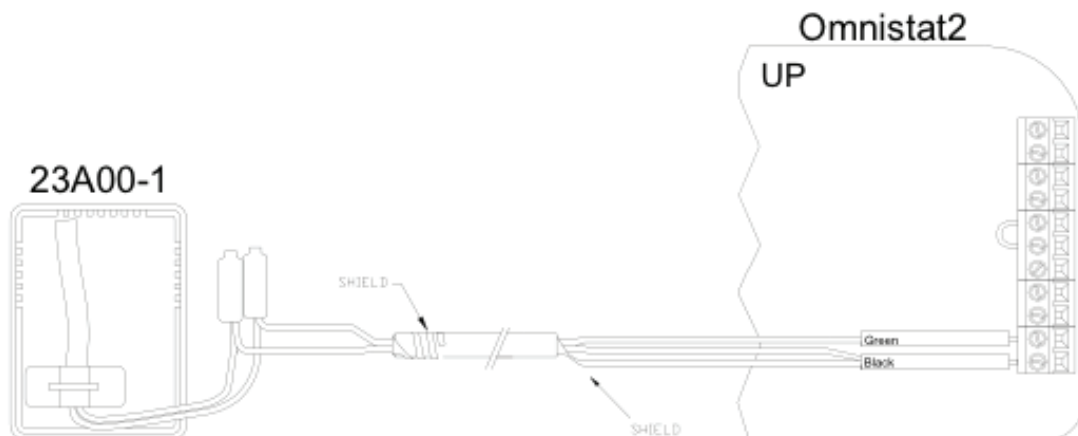

FIGURE 1: OVERALL INSTALLATION DIAGRAM
6. At the Omnistat2 location, make the connections to the Green and Black terminals under the section marked "Remote Temp Sensor" on the right terminal strip. Note that the shield and one of the wires from the remote temperature sensor are tied together and get connected to the Black terminal – See Figure 1.